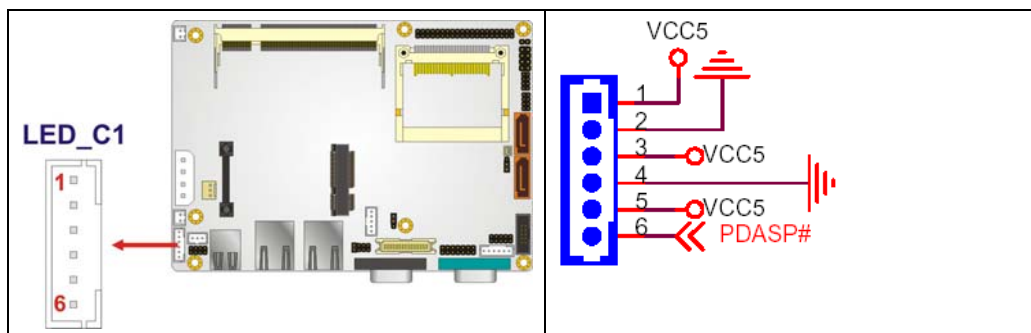

Figure 3-6: LED Connector Locations
- CN Location:** See Figure 3-6